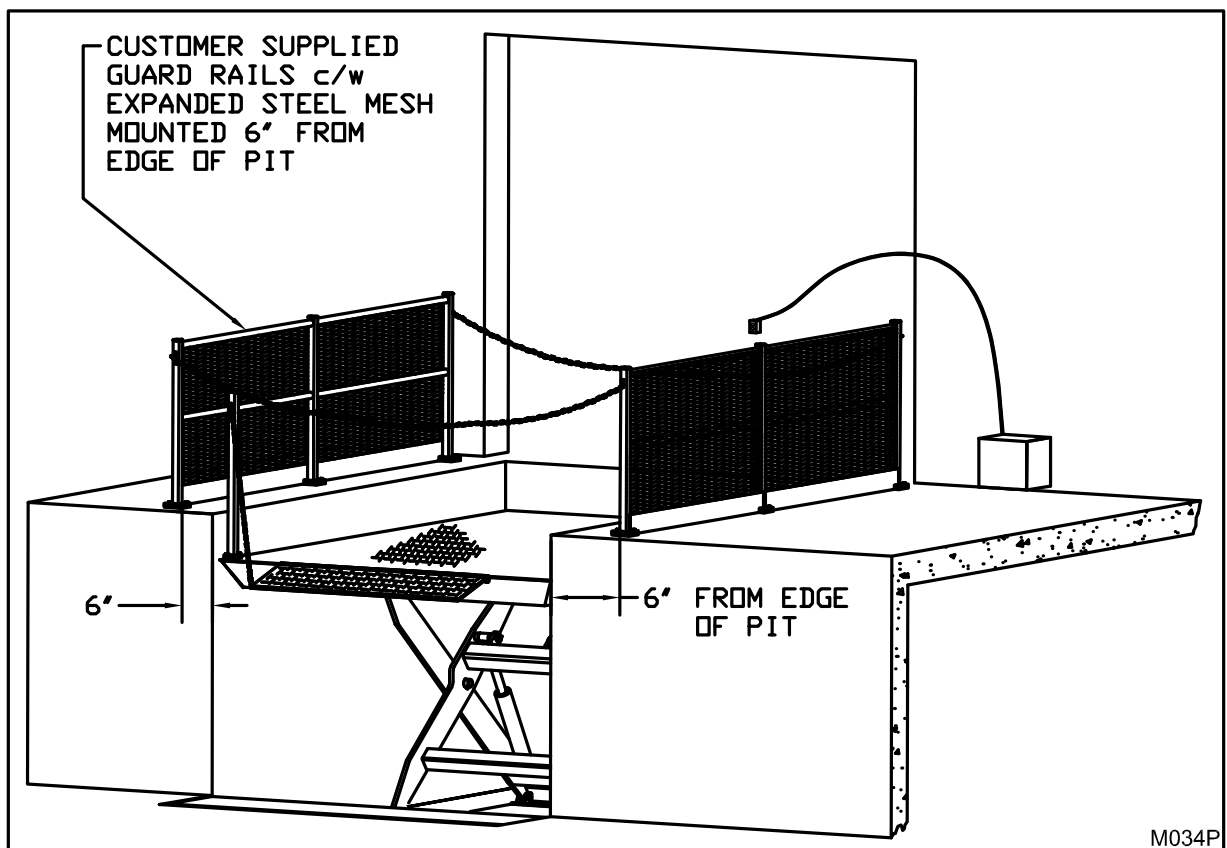

Figure 10: Guard Rails Mounted on Dock Floor
3. Remove the guard rails from the platform of the dock lift and have guard rails installed on the adjacent sides of the pit on the dock floor (See “Figure 10: Guard Rails Mounted on Dock Floor” on page 17). Note: Guard rails must be set back. **Note:** This arrangement is only suitable if the dock lift does not travel higher than the dock floor level.